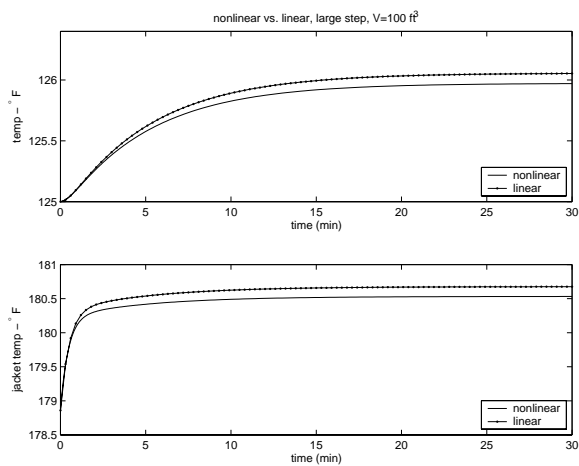

Figure 2-6: Plot for 2.8j
- j. Figure 2-6 shows the response to a step of 10% of the steady state jacket flow rate. Comparing this to figure 4(b), we can see that both linear model